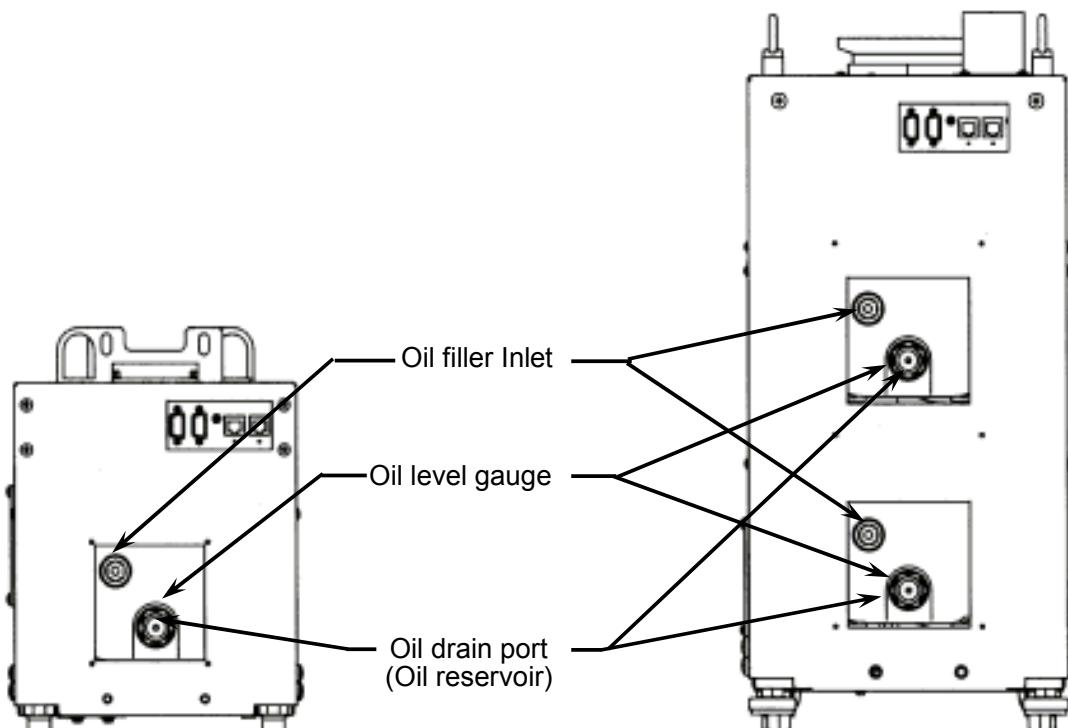

Fig. 7.2 Oil filler inlet, oil level gauge, and oil drain port positions
(See Figs. 7.2)
- (3) Check the level through the window of the oil level gauge. Then, add the oil so that the level is between the upper and lower limit lines (see Figs. 7.2 and 7.3).
- (4) After you have checked that there are no depositions and fragments adhering to the O ring attached to the plug, close the oil-filler inlet.
- (5) Please check the air leak after supplying lubricating oil.